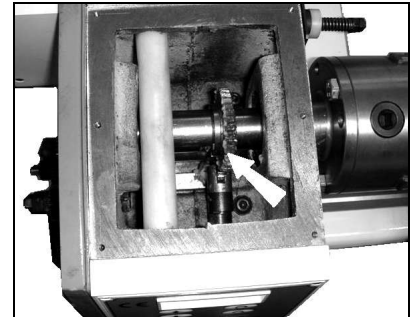

Fig 21
12...grease teeth of headstock gears (Fig 21)